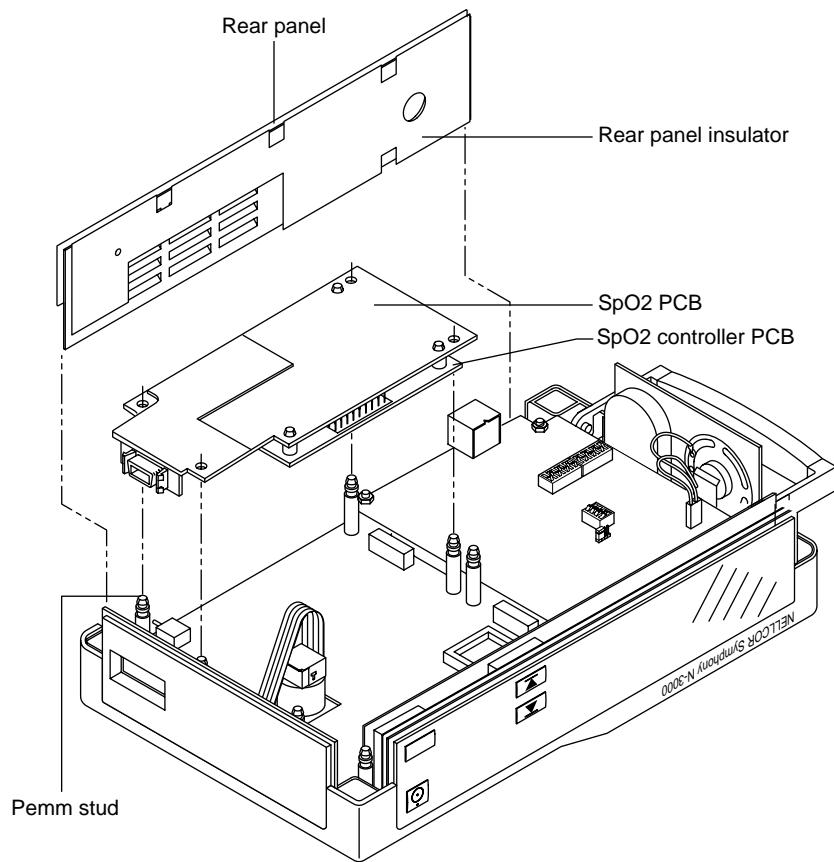

Figure 6-7: Rear Panel and SpO₂ Module Disassembly
2. Remove the rear panel, rear-panel insulator, and NEW PATIENT/NEONATAL button by lifting up and rotating out of the chassis channel guides as illustrated in Figure 6-7.